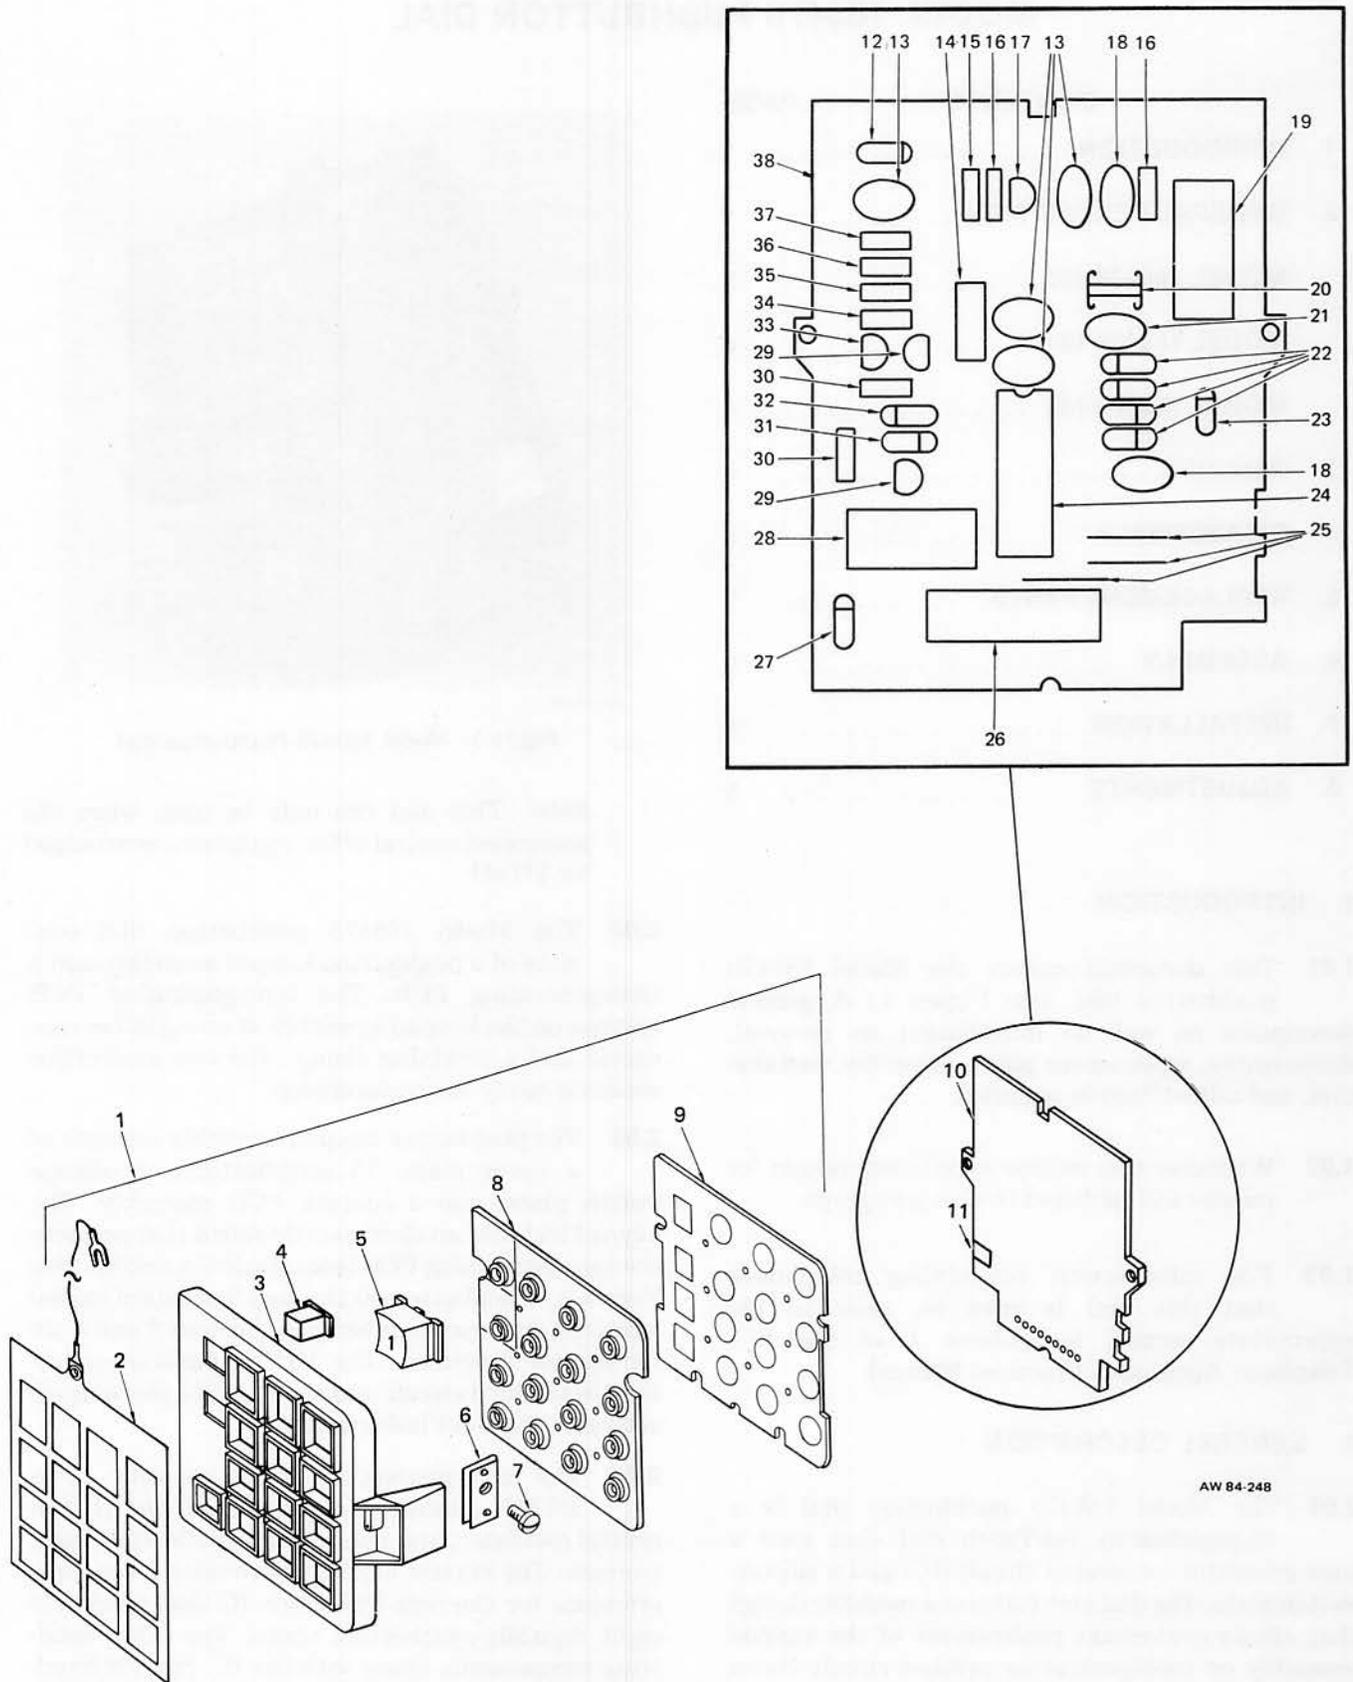

Figure 2: Model 188478 Pushbutton Dial, Exploded View
2.03 The pushbutton keypad assembly consists of a cover plate, 13 pushbuttons, a silicone switch plate, and a contact PCB assembly. The keypad includes an electrostatic shield that protects the tone-generating PCB from static electricity. (See Figure 2.) Pushbuttons 0 through 9 are used to dial a desired directory number, pushbuttons * and # are for special functions. The HOLD pushbutton activates the hold circuit and the FLASH pushbutton activates the Tel-Flash circuit.
5.01 Replacement parts for the Model 188478 pushbutton dial are listed in Table B and shown in Figure 2.